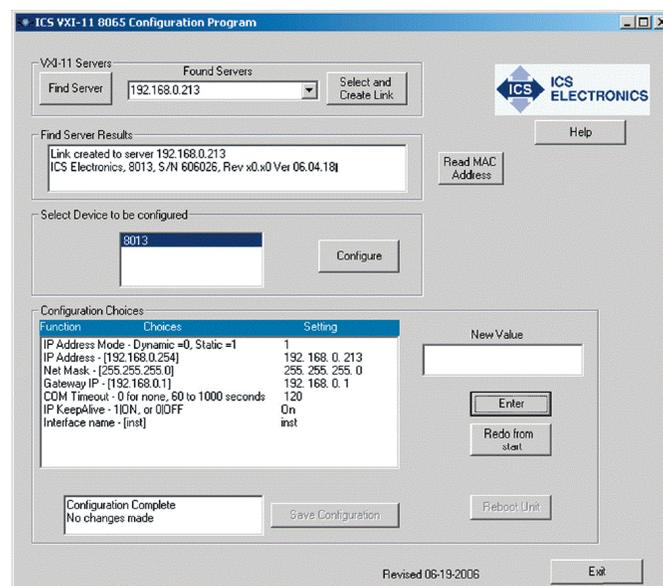

Figure 4-8 VXI-11 Configuration Utility (Showing all configuration choices with no changes)
4. Run the VXI11_config program. The Configuration Utility opens a window as shown in Figure 4-8. Initially only the Find Server, Help and Exit buttons are enabled on the program window. The other buttons will be enabled as you advance through the program.
9. Repeat step 8 for each configuration parameter. Figure 4-8 shows the VXI-11 Configuration Utility after all parameters have been entered for a Model 8003. Click the Redo From Start button if you need to start over or if you want to change any of the prior settings